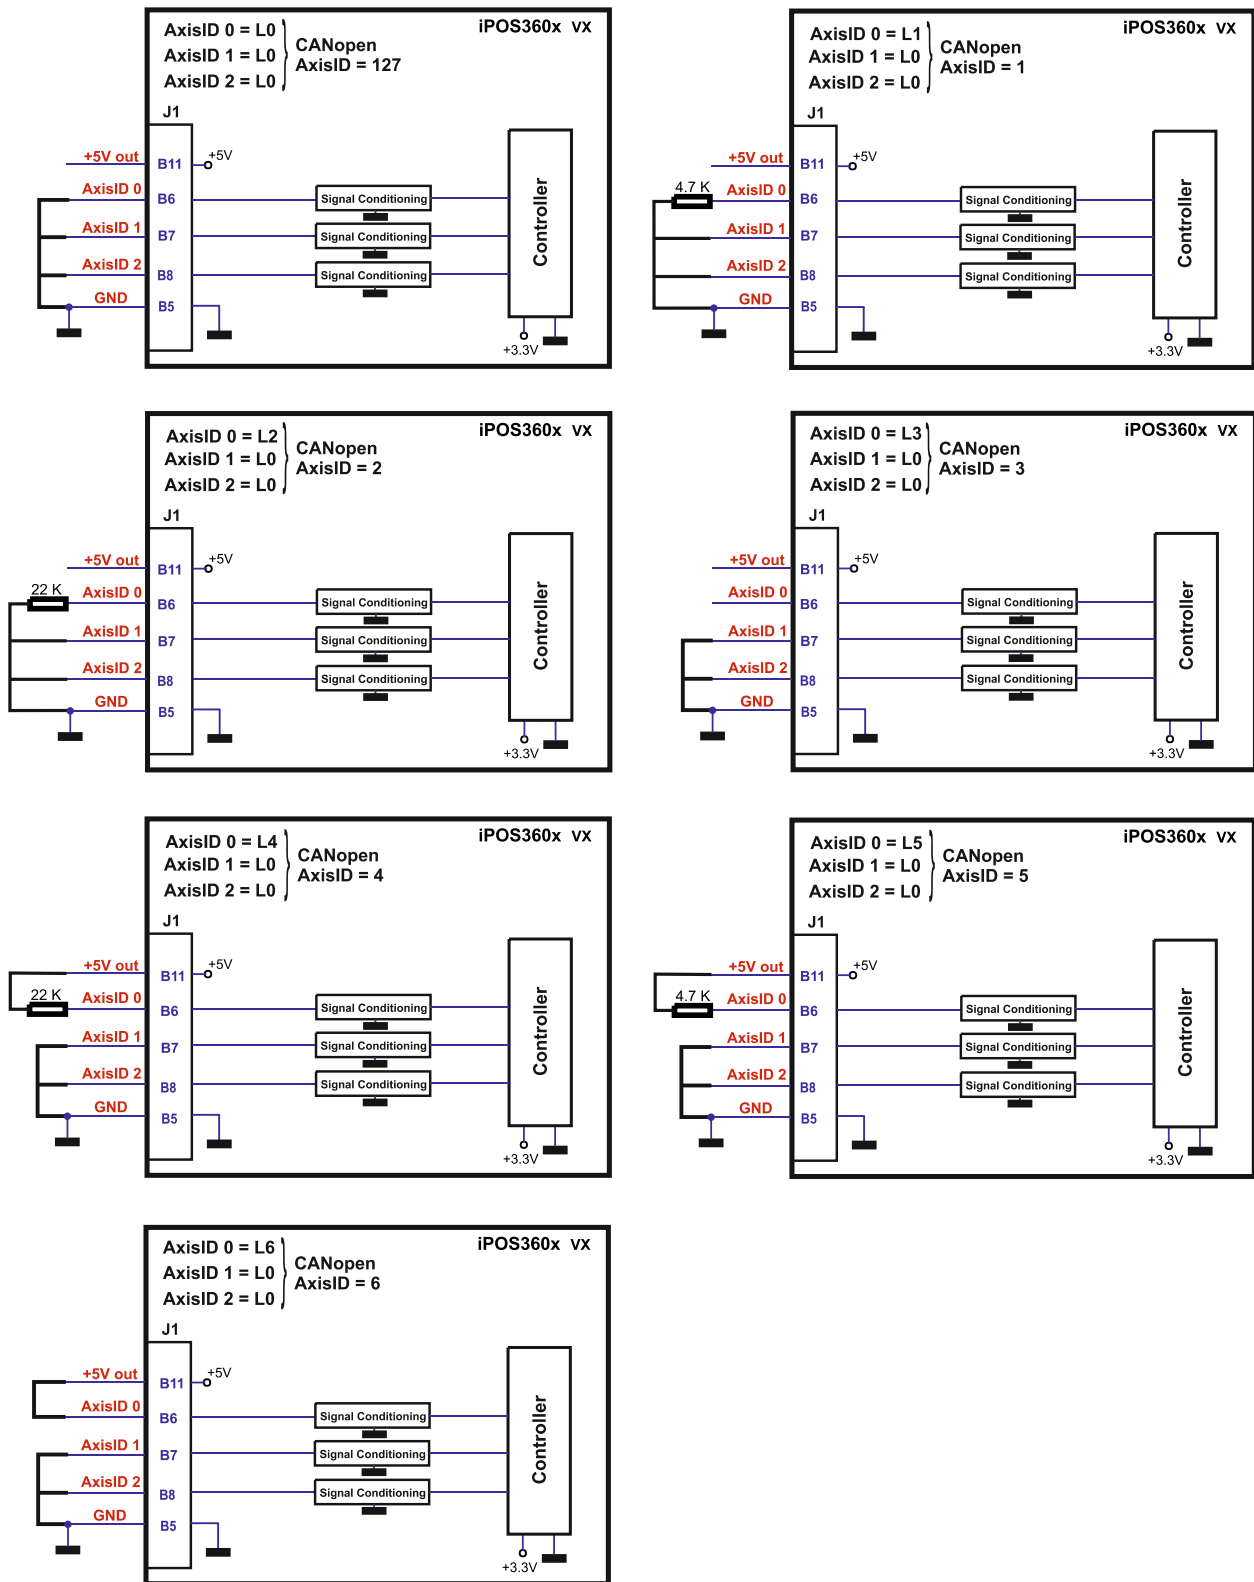

Figure 3.34. Axis ID Setting Examples. CANopen mode
**Figure 3.34** shows how to set the 7 levels on the AxisID 0 input and the resulting axis ID values when AxisID 2 input level is set for **CANopen** operation. Chapter 3.9.1 shows how to set all possible values for axis ID in this mode of operation.